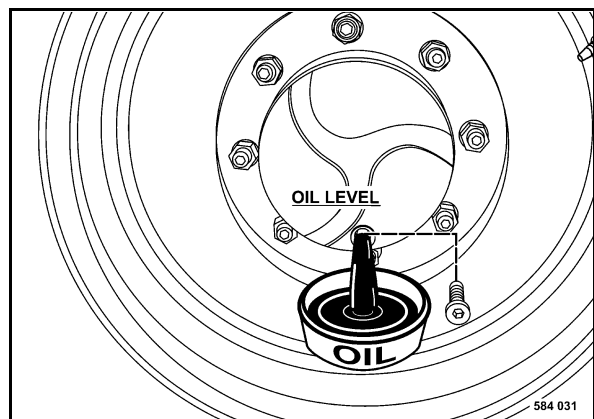

Fig. 167
- Move the drive wheel, until the plug (Fig. 167) is in bottom position.